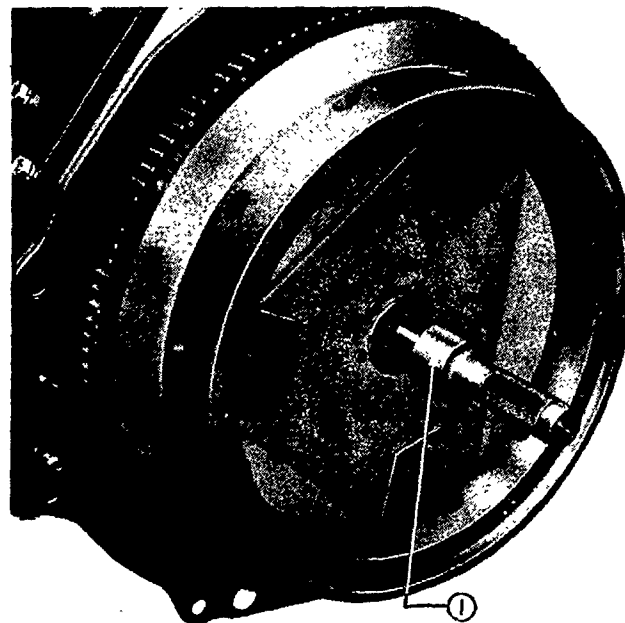

Figure 49
3. Locate the transmission clutch disc on the flywheel, centralizing it with a clutch locator tool, Figure 49. Where a current cerametallic button clutch disc is being installed, the side with the longer hub protrusion must face the flywheel, but where a previous organic friction lined disc is being installed the longer hub protrusion must face the double clutch assembly.
NOTE - Figure 49 illustrates disc locator, Tool Number SW13-1 (not available in U.S.A.) which is suitable for both current and previous transmission clutch discs used with double clutch assemblies.